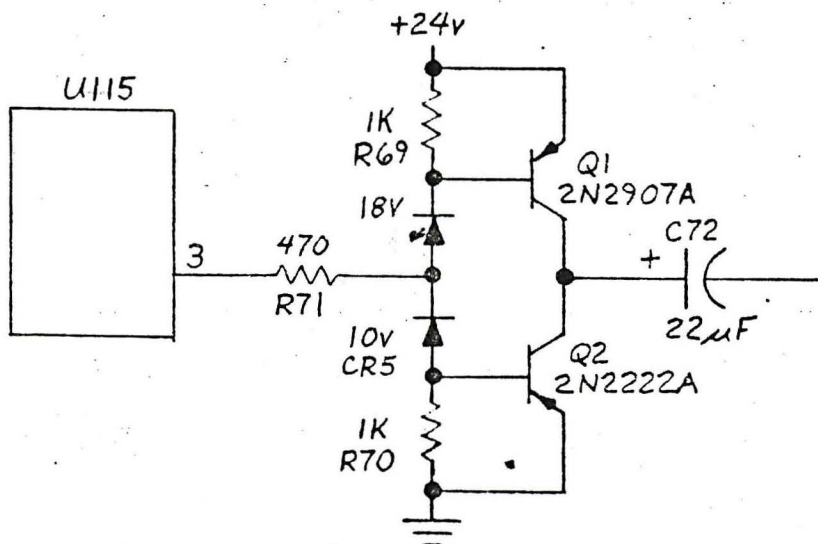

Figure 2
1. Change the schematic on page 9-9/9-10 to reflect Figure 2.